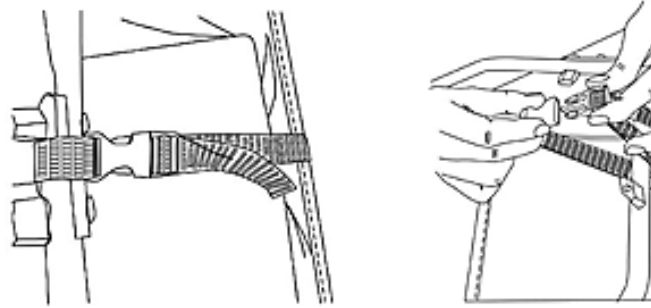

Figure 8
8. Step 2: Wrap the Security Belt, located on the back of the Grass catcher, around the centre joint of the Lower handles and lock buckle into place, as shown in Figure 8.
Note the length of the Security Belt can be adjusted by modifying the loop length. (See Fig 8)